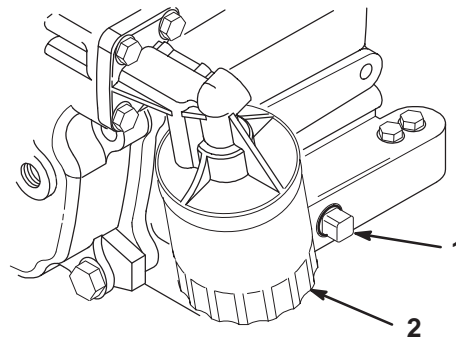

Figure 18
5. Remove the drain plug (Fig. 18) and let the oil flow into a drain pan. When the oil drains completely, install the drain plug.
2. Remove the existing oil filter (Fig. 18). Apply a light coat of clean oil to the new filter gasket.